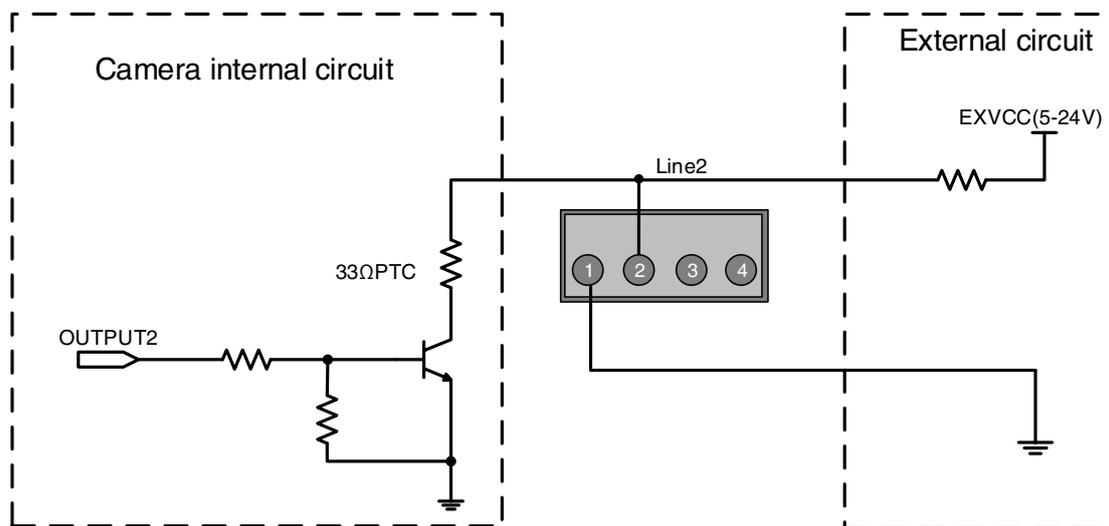

Figure 7-12 Internal equivalent circuit of camera when Line2 is configured as output
- When Line2 is configured as output, the internal equivalent circuit of camera is shown in Figure 7-12, take Line2 as an example